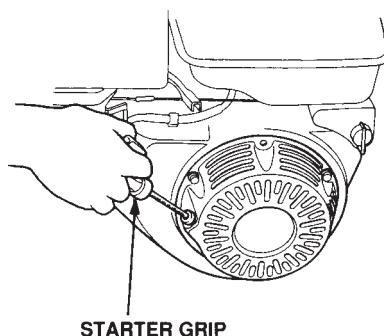

Figure 19. Starter Grip
7. Pull the **starter grip** (Figure 19) lightly until you feel resistance, then pull briskly. Return the starter grip gently.